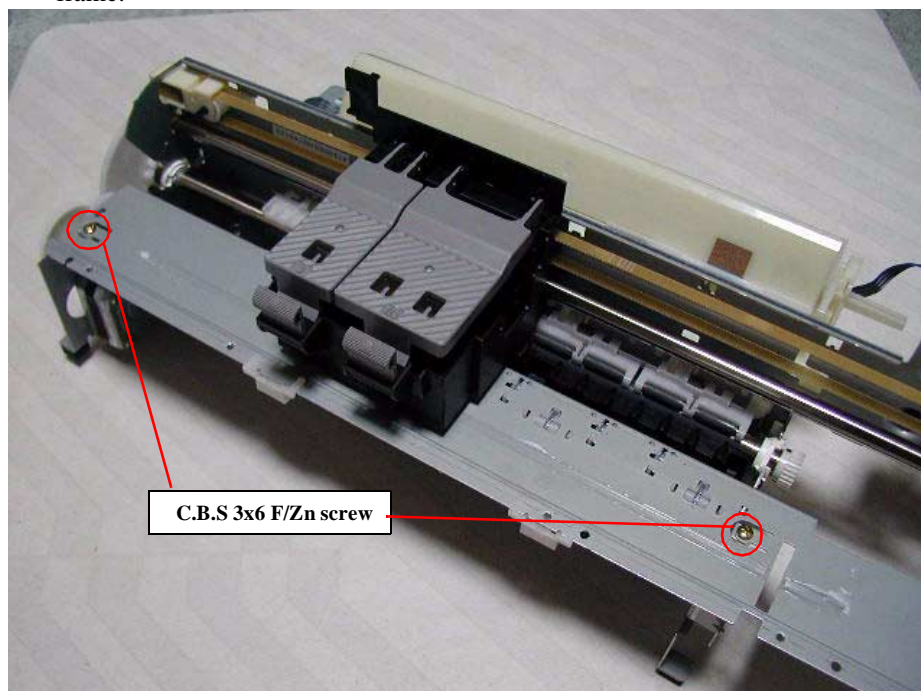

Figure 4-38. Removing the Front frame
4. Remove the Plain washer and then remove the Combination gear 11.6, 36.8 carefully. Refer to Figure 4-38.